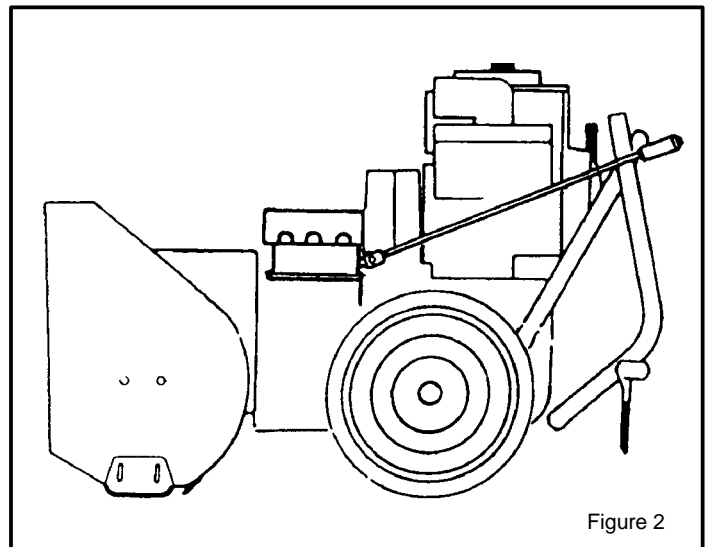

Figure 2
Figure 2 shows the snowthrower in the shipping position.
6. For shipping purposes, the **height adjust skids** are attached to the pallet. Remove the **screw** that secures each **height adjust skid** to the pallet. (See Figure 2).